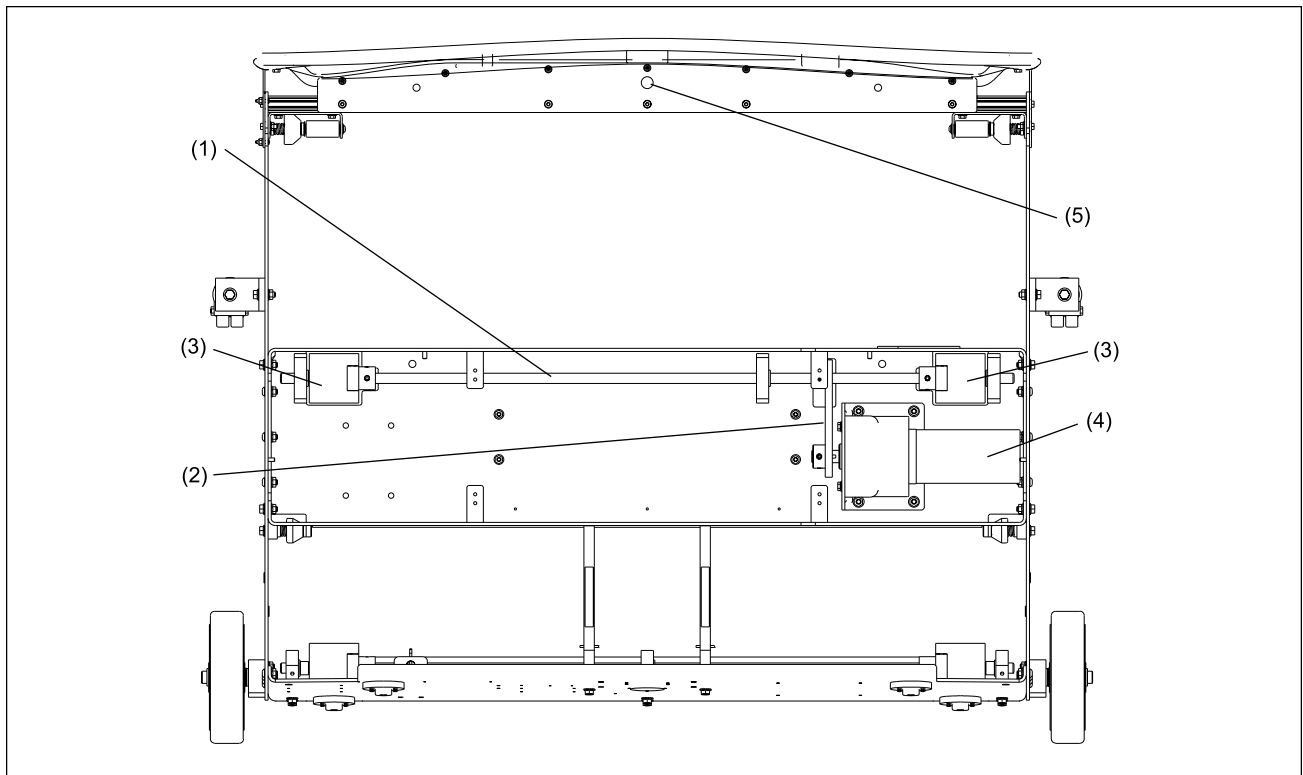

Figure 2-8. Traction Drive System
1. The **traction drive motor** turns a chain which rotates the **traction wheel drive shaft**. The **traction drive wheels** contact the lane surface and as the traction wheel drive shaft turns, the machine begins to move down the lane towards the pin deck. Refer to Figure 2-8.